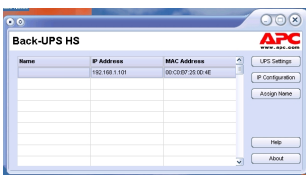
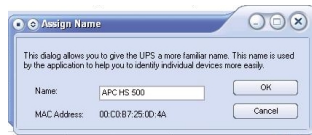

Figure 8. Back-UPS HS IP Address and MAC Address Screen
Figure 11. Assign Name Screen
8. Following installation, the Back-UPS HS software is available in the Start menu. Upon launching the program, it searches for all Back-UPS HS devices on the network, and will identify them as shown in Figure 8 by IP Address and MAC Address. The IP Address is automatically assigned to the Back-UPS by the DHCP service from your hub or router. IP Addresses assigned by the DHCP service may automatically change over time. Thus, APC recommends you do not bookmark the IP Address, as you may not be able to access it through your browser. The MAC Address is assigned to the Back-UPS HS 500 at the factory.
10. You can assign a name to the Back-UPS by clicking on the Assign Name button (Figure 8) and entering the name in the Assign Name Screen dialog. It will appear in the column to the left of the IP Address of the device (Figure 11). Names should not be duplicated.
13. To change the configuration of the Back-UPS or perform UPS maintenance, you must log on to the web page (Figure 11) by clicking on the UPS Settings button.